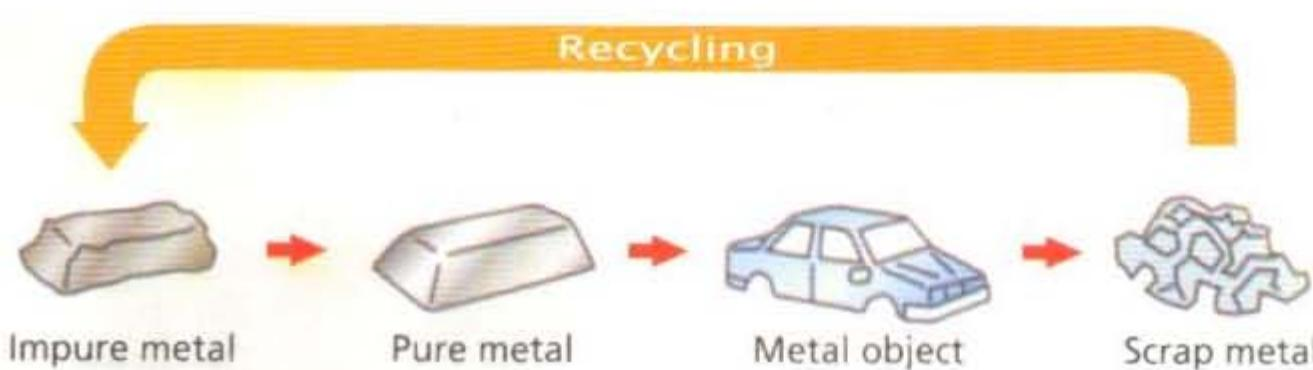

Fig. 14.25 Recycling metals for reuse
- we recycle metals. Metals are readily recycled — old metal objects can be crushed and melted for reuse (Fig. 14.25).